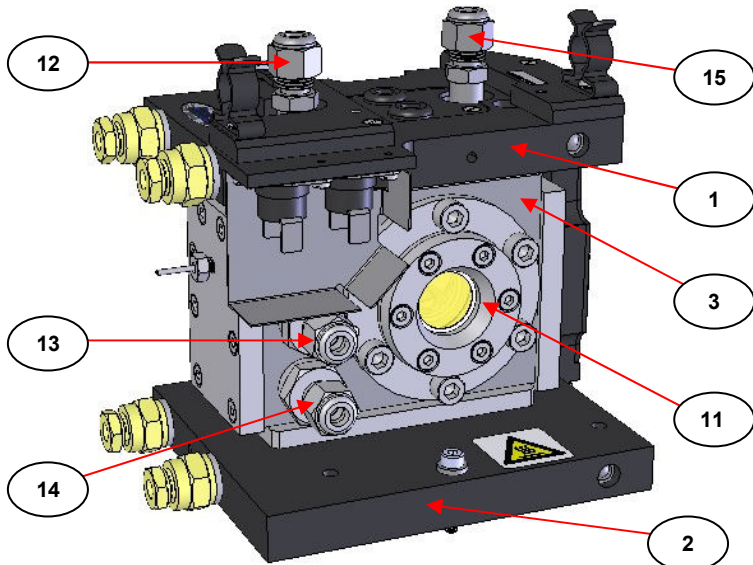

Fig 5. Gas Connection Ports on the HTHP Cell
To allow for the introduction of gases under pressurised conditions in, or flow conditions through the cell chamber and for operation of the HTHP Cell chamber under vacuum conditions, the HTHP Cell body (3) carries **four** gas connection ports. (See Fig 5.)